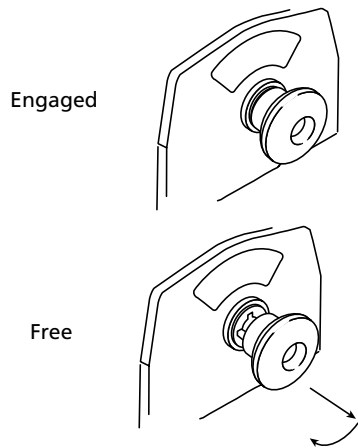

Figure 11
Pull and turn the clutch knob to the "Free " position as shown in Figure 11. If there is a load on the wire rope, the clutch knob may not pull out easily. **DO NOT FORCE THE CLUTCH KNOB.** Release tension on the clutch by jogging out some of the wire rope. Release the clutch and pull out the wire rope and secure to anchor or load. check that there are at least five (5) turns of wire rope left on the drum. Re-engage the drum by returning the clutch knob to the "Engaged" position. (See Figure 11).